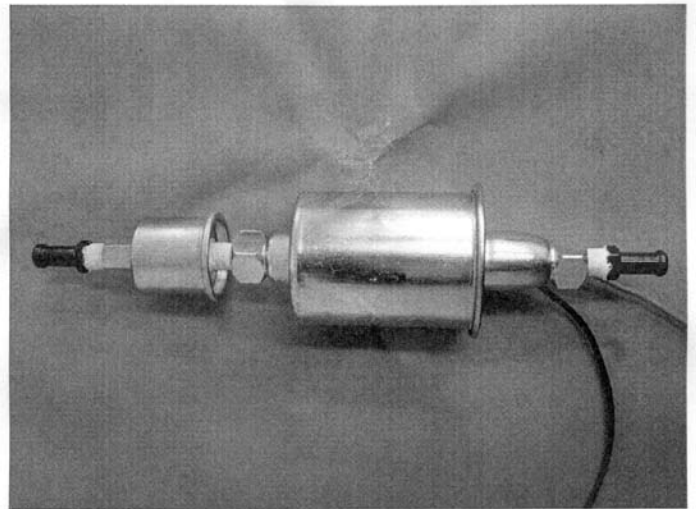

Figure 2. Fuel pump assembly
2. Remove pump plugs and install one-way valve and hose barb fitting per Figure 2.